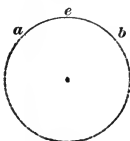

FIG. 41.
**70.** An **arc** of a circle (see  $a e b$ , Fig. 41) is any part of its circumference.